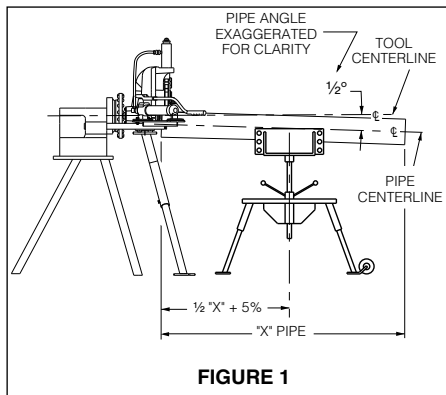

FIGURE 1
- Figure 1 shows the Victaulic adjustable pipe stand (VAPS 112). VAPS 112 is suitable for ¾" to 12" pipe. Also available is Victaulic model VAPS 224 suitable for sizes 2" to 24". See Accessories on page 27.
1. Place the pipe stand at a distance slightly beyond one half the pipe length from the tool (see Figure 1).
3. Adjust the pipe stand height to position the pipe approximately ½° below level. See Figure 1. The pipe must be in position on the tool's lower roll while checking the below level position.